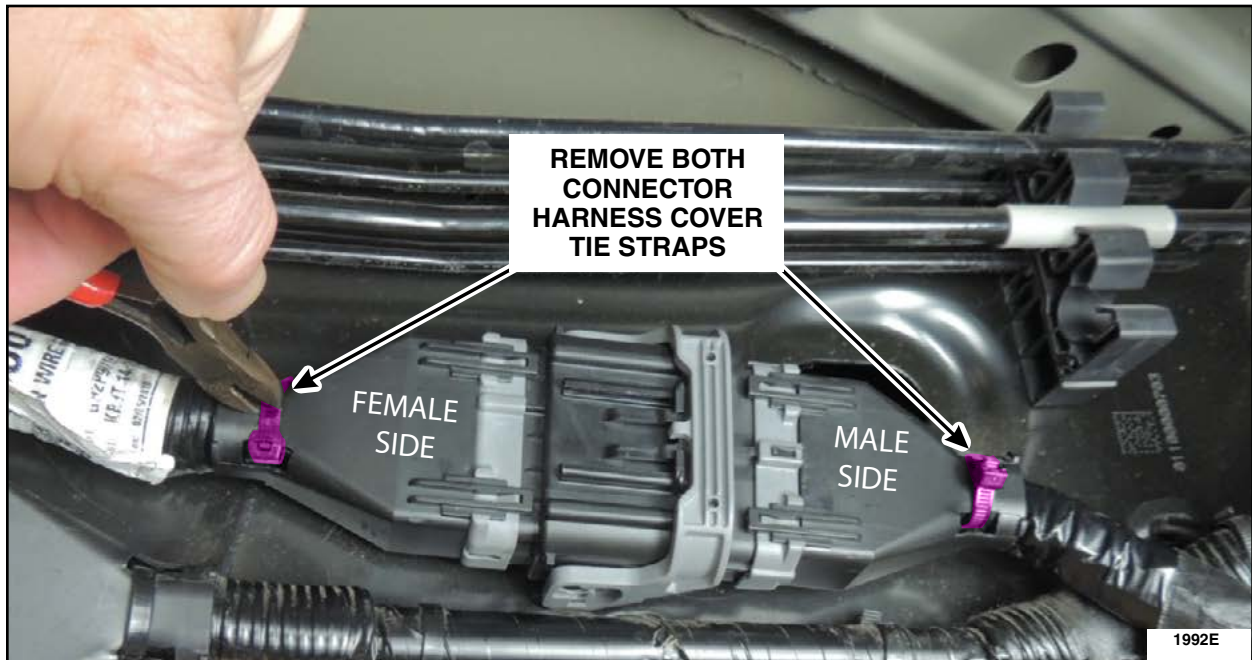

FIGURE 4
- Using a pair of side cutters, remove the zip ties holding the harness covers on both the male and female connector ends. See Figure 4.